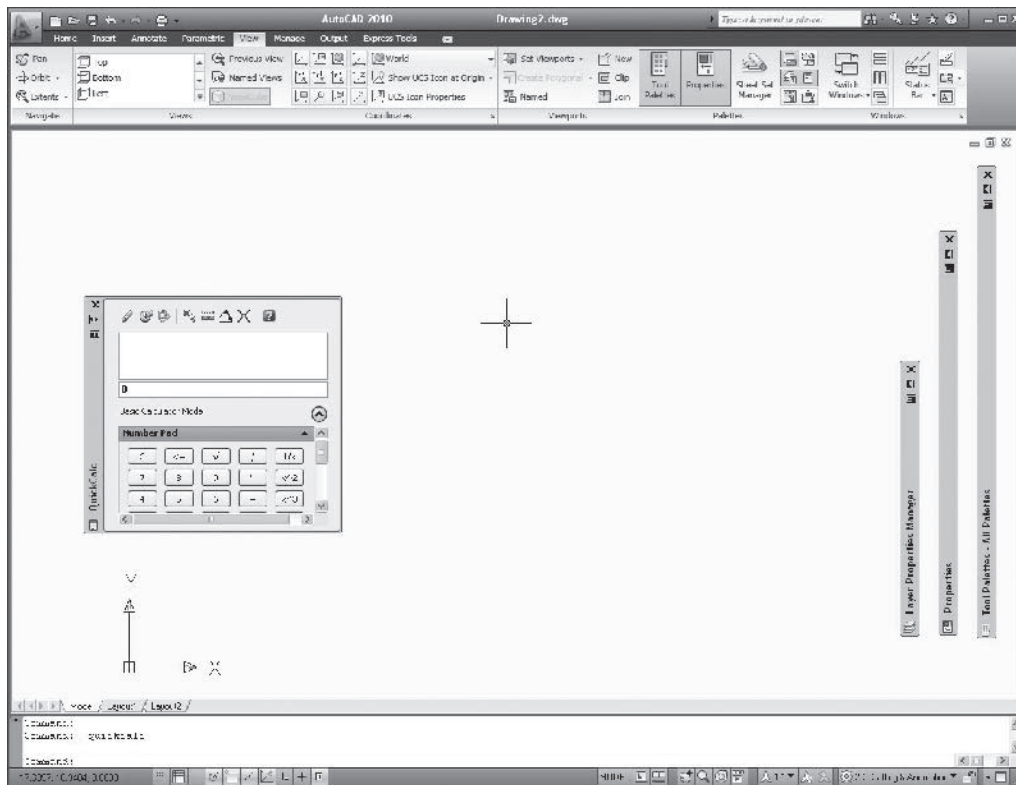

Fig. 3-11
2. Starting in the **2D Drafting & Annotation** workspace, rearrange the AutoCAD window so that it is similar to the one in Fig. 3-11 on page 30.